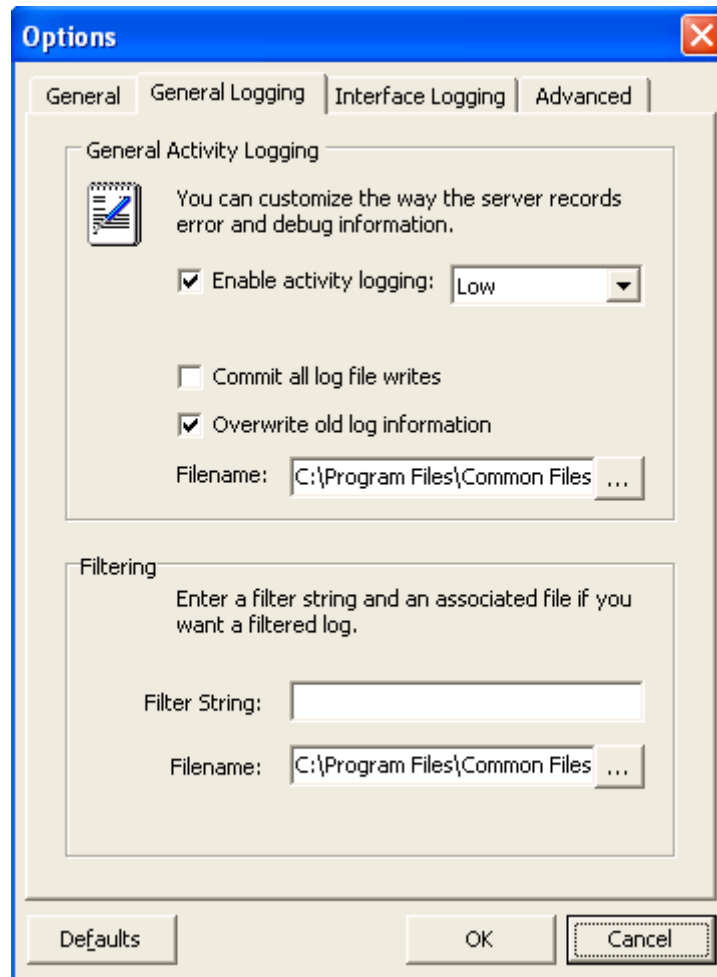

Figure 6 - General Logging Options Tab
3. From the **Options** window, select the **General Logging** tab (Figure 6).